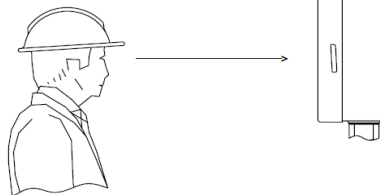

Figure. 7
- 5) Open the valve and check steady indication of pressure gauge after installation. (Figure. 7)